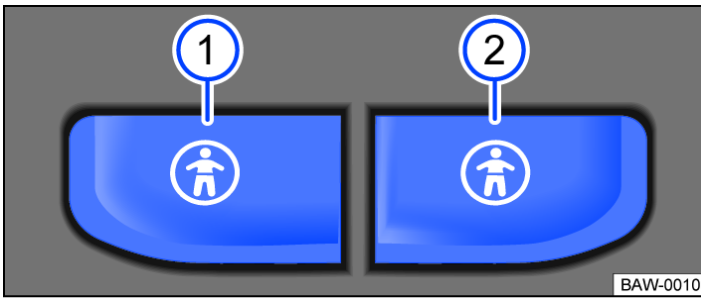

Fig. 1 In the driver door: buttons for the electric childproof lock.
- *Switching on:* press the left-hand → Fig. 1 ① or right-hand button → Fig. 1 ②.